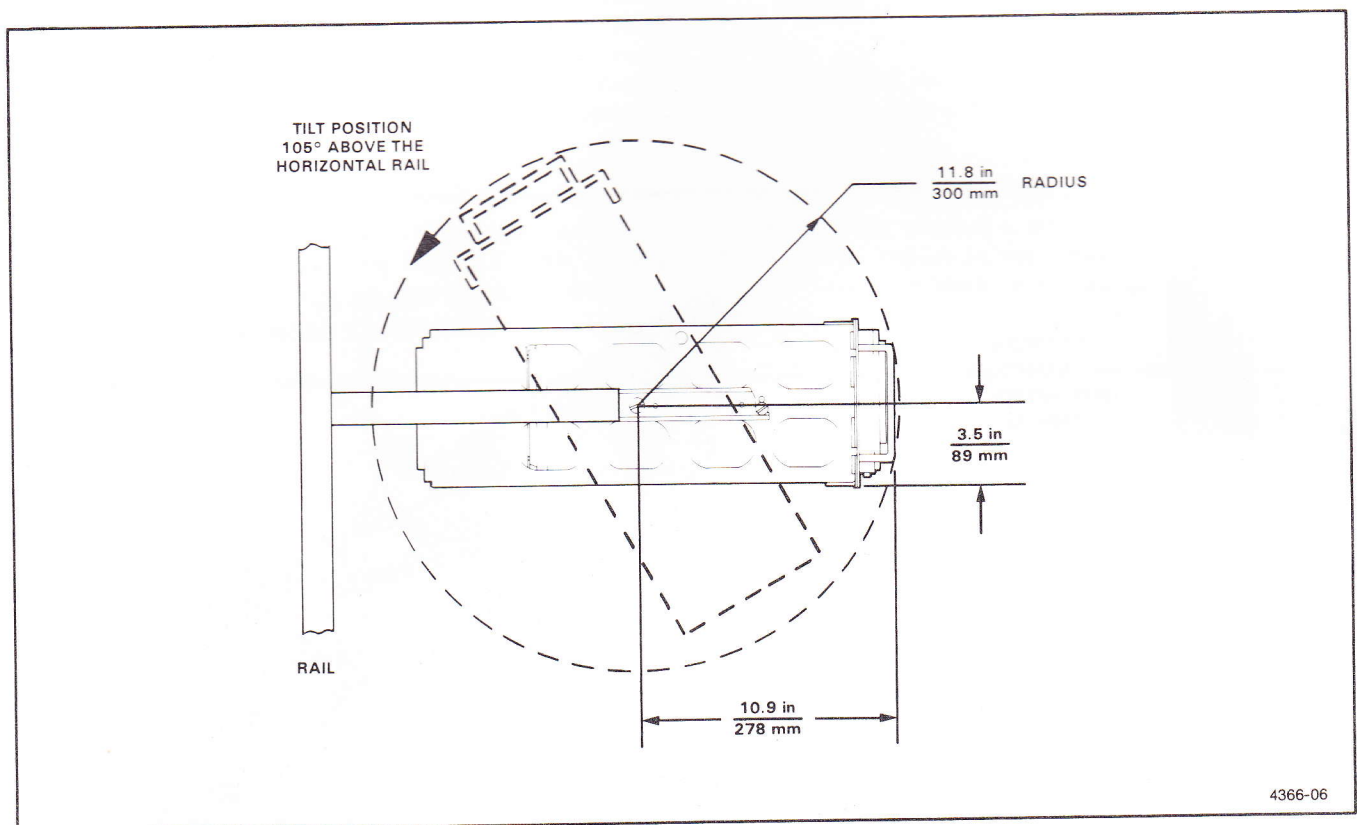
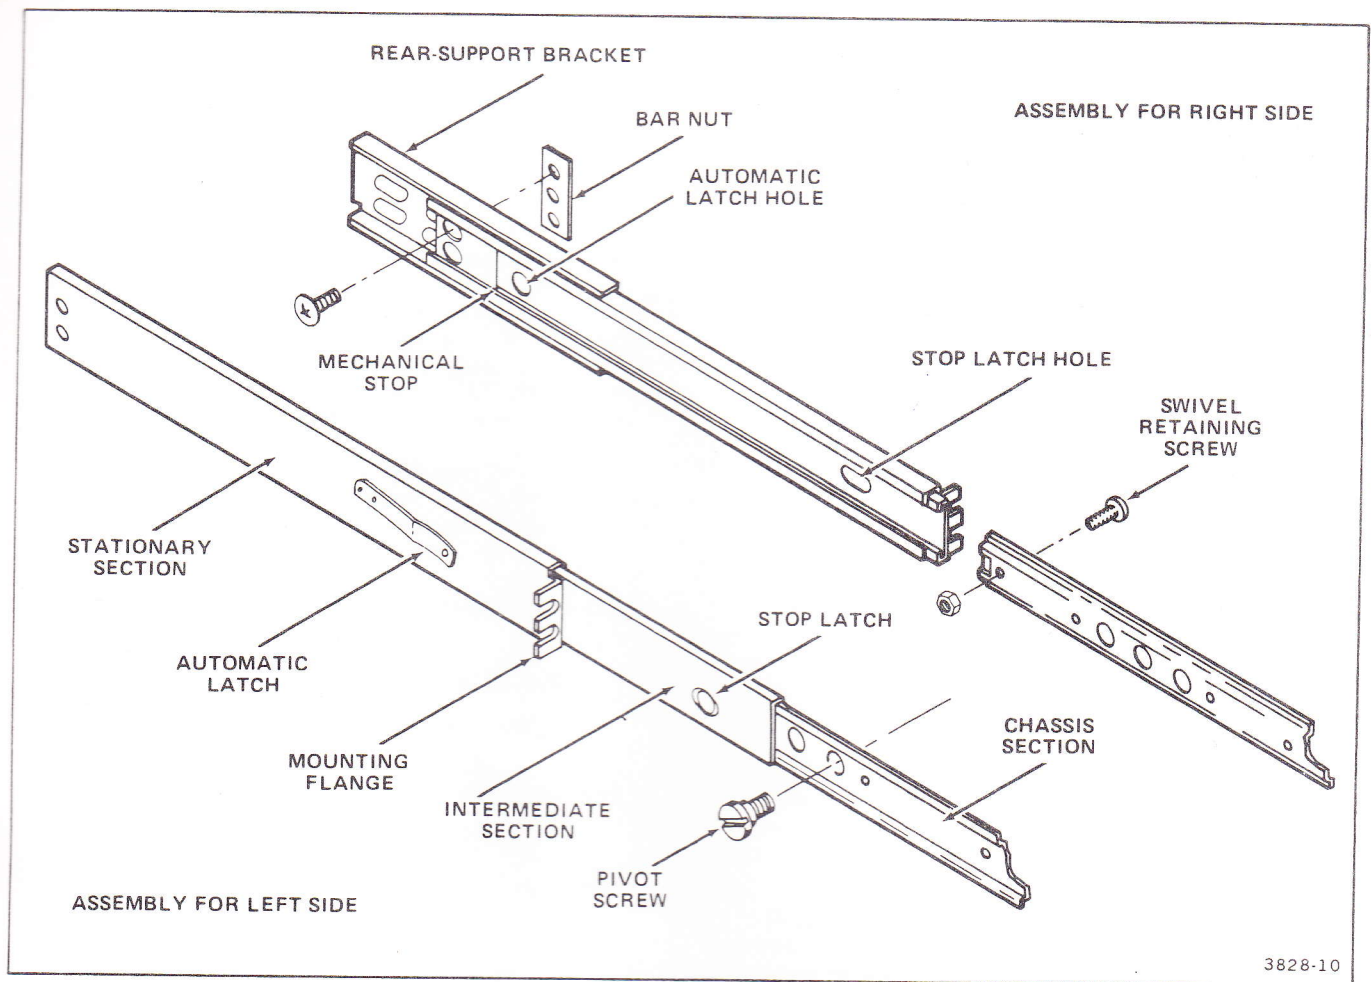

Figure 6. Tilting the rack-adapted instrument.
Figure 7. Slide-out track assembly.
6. If you desire to let the instrument tilt up as shown in Figure 6 (for maintenance purposes), remove the swivel retaining screw from the rear of each chassis rail before performing the next step. Figure 7 illustrates the location of the swivel retaining screw in the chassis rails.